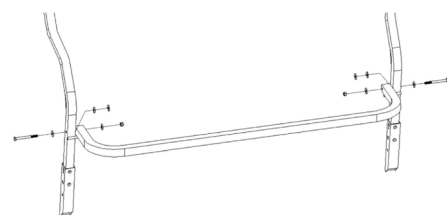

Figure 26
STEP 11: Install the foot rest to the uprights using two (2) 3" bolts, eight (8) washers, and two (2) locknuts as shown in Figure 26. Make certain to place two (2) washers between the foot rest and upright, one (1) washer under the bolt head, and one (1) under the locknut as shown in Figure 26. Go back now and tighten the hardware to 50 inch pounds. Make certain all hardware is secure prior to attempting to use this product(s).